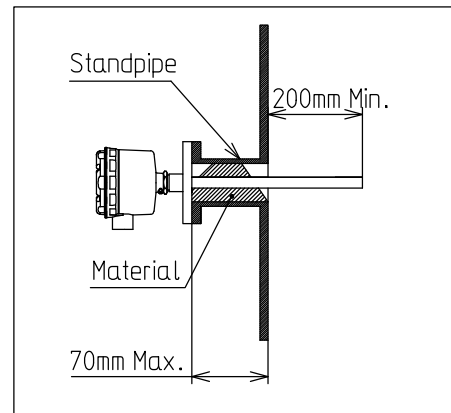

Fig. 5-11
- (13) Use a standpipe as short as possible and ensure material will not remain inside. Ensure the detecting pipe projects into the hopper for at least 200 mm. For a standpipe of size 50A and sch20, the maximum length is 70mm. Note that the maximum length depends on material properties and standpipe size. (Fig. 5-11)